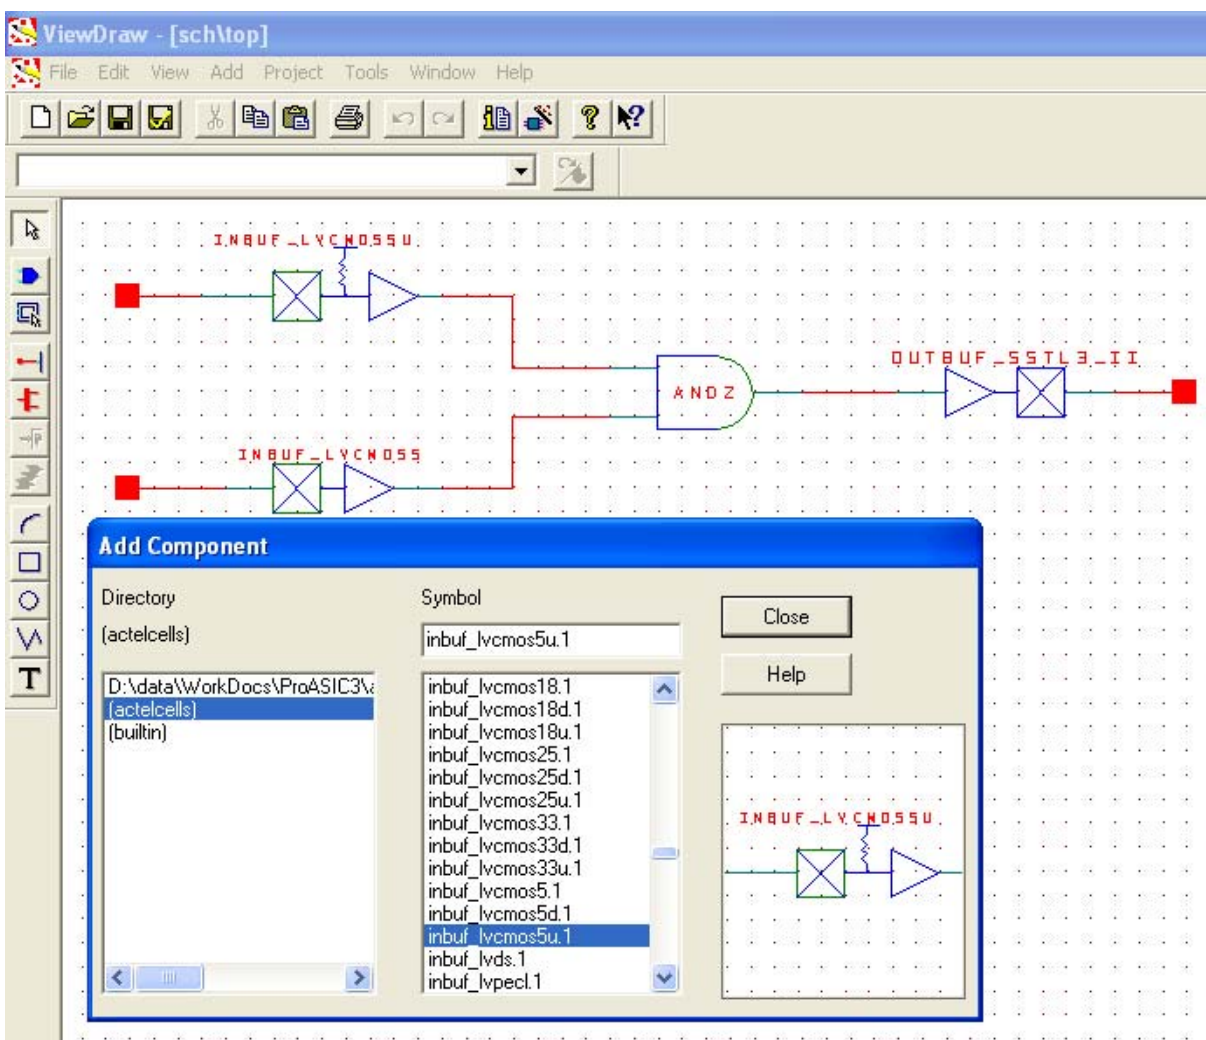

Figure 13-6 • I/O Buffer Schematic Cell Usage
6. Enter a name for the macro. Click **OK**. The core will be generated and saved to the appropriate location within the project files (Figure 13-6 on page 13-7).
Libero IDE includes the ViewDraw schematic entry tool. Using ViewDraw, the user can insert any supported I/O buffer cell in the top-level schematic. Figure 13-6 shows a top-level schematic with different I/O buffer cells. When synthesized, the netlist will contain the same I/O macro.